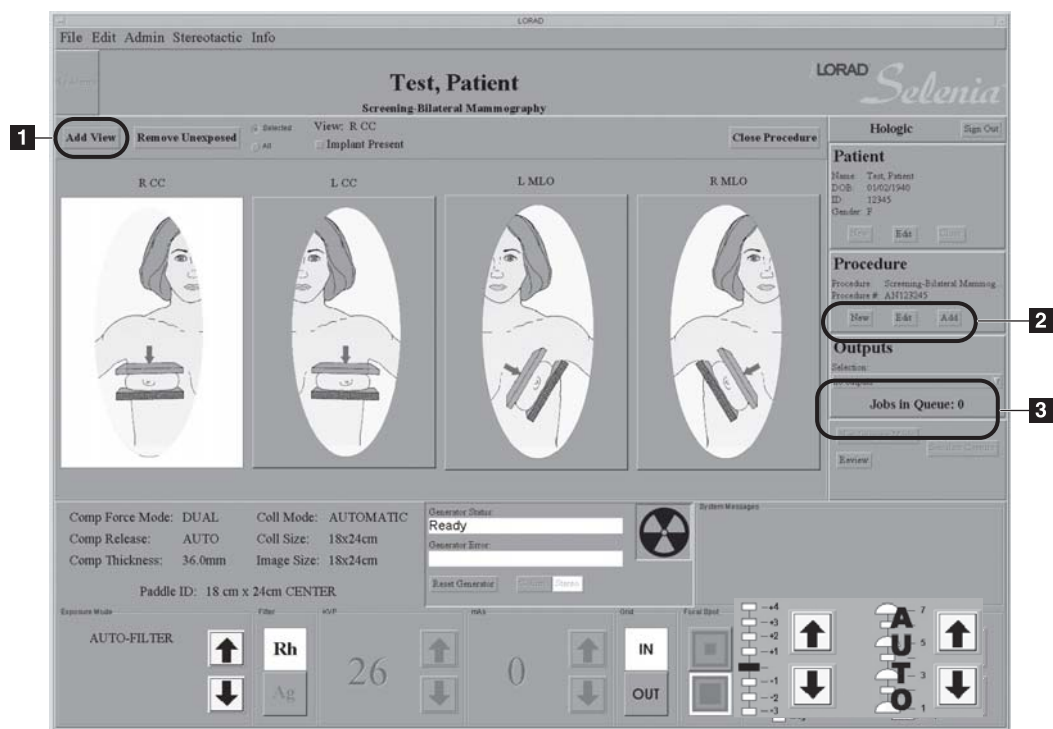

Figure 3-41: Patient Views Screen with Icon(s) for Scheduled Views
Legend for Figure 3-41
1. Click **Add View**, (Figure 3-41, #1).